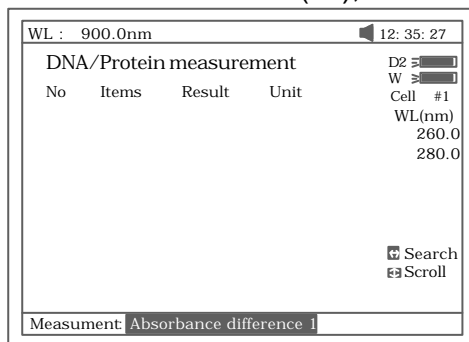
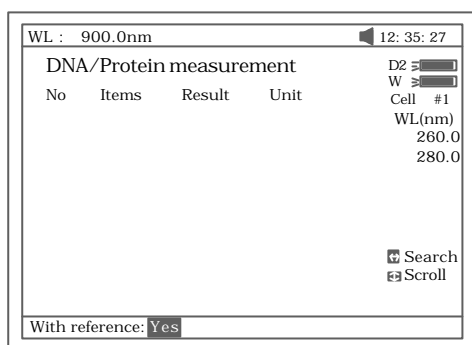

Fig 62
Fig 63
2. Press **[F2]** to select test mode. "Absorbance difference 1" is for testing at the wavelength 260nm,280nm and 320nm (optional),and the "Absorbance difference 2" is for testing at the wavelength 260nm,280nm and 320nm (optional, Fig 62). Then select with/without reference. If selected with reference (no), the A ref. will be "0" (Fig 63).